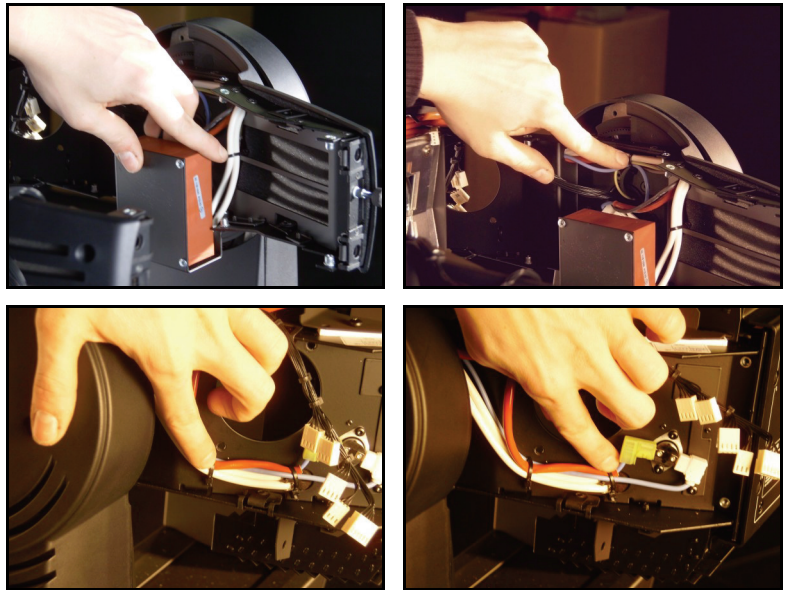

Figure 49
54. See Figure 49. Cut the cable ties holding the ignitor wiring.